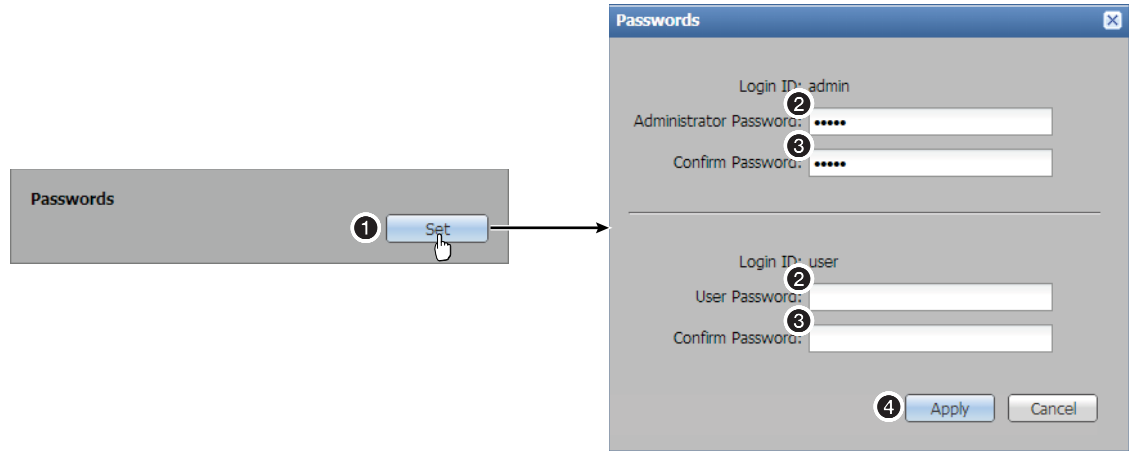

Figure 74. Passwords Dialog Box
Click **Set** in the Passwords panel (see figure 74, ❶) to open the Passwords dialog box.